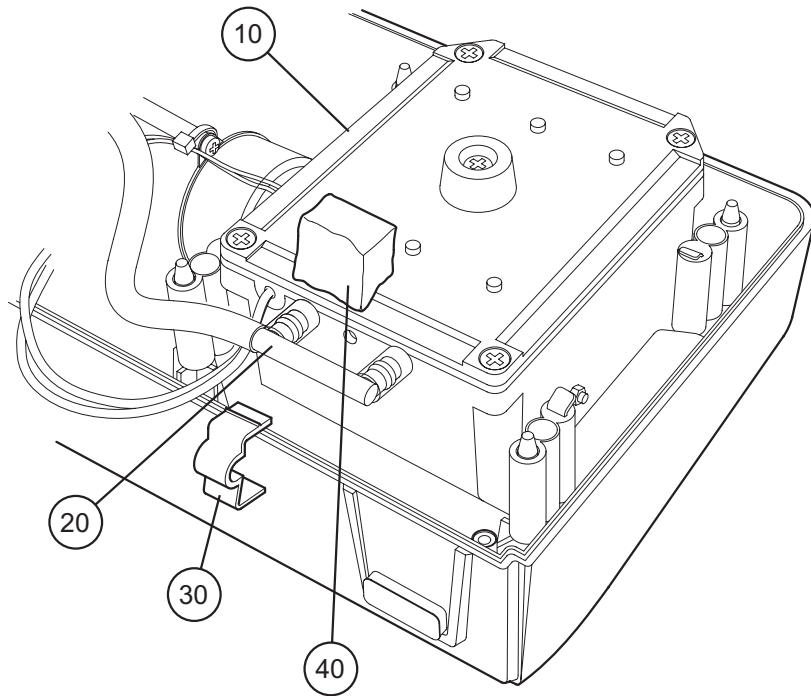

Figure 6 - Replacing the Compressor Filter Assembly
- 12.3 Carefully pull the filter retaining clip (Fig 6, Item 30) from the 'F' tube connector (Fig 6, Item 20).
- 12.4 Remove and discard the old inlet filter (Fig 6, Item 40).
- 13.1 Locate a new inlet filter (Fig 6, Item 40) over the air intake hole in the case of the compressor assembly (Fig 6, Item 10).
- 13.2 Carefully reposition the filter retaining Clip (Fig 6, Item 30) on the 'F' tube connector (Fig 6, Item 20) to retain the inlet filter (Fig 6, Item 40). Make sure the clip is fitted with the longer arm downward if appropriate.